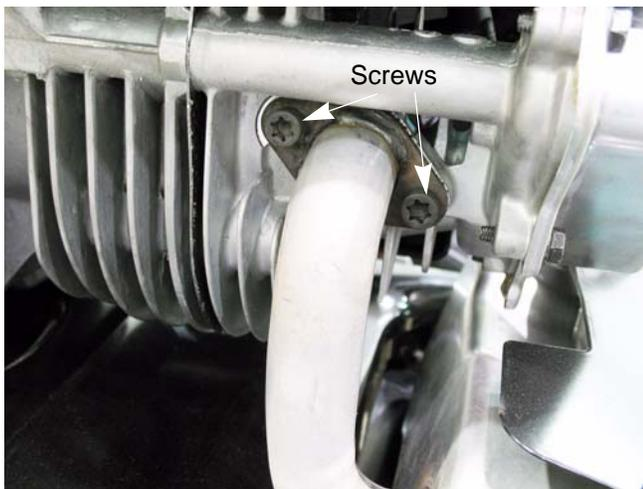

Figure 2.2
- Remove the two screws that secure the exhaust pipe to the cylinder head. See Figure 2.2.